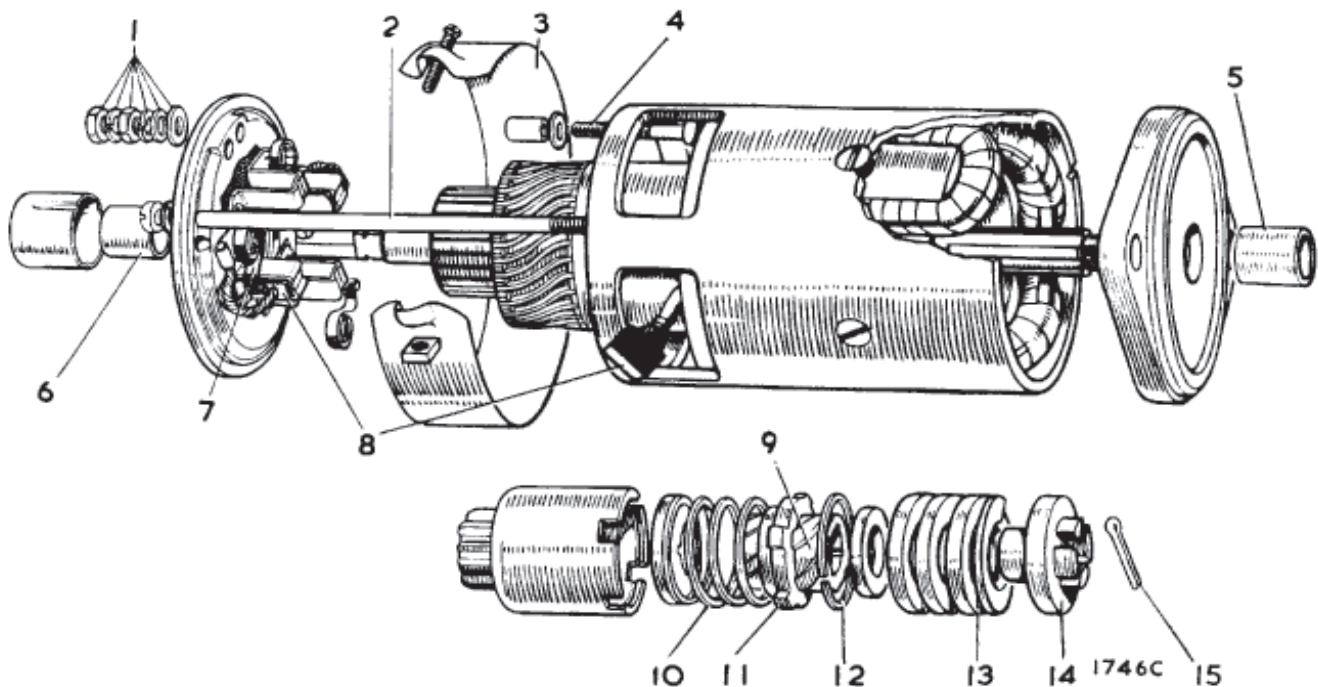

Fig. N.4
Remove the starter cover band (3) (Fig. N.4) and examine the brushes (8) (Fig. N.4) and the commutator. Hold back each of the brush springs (7) (Fig. N.4) and move the brush by pulling gently on its flexible connector. If the movement is sluggish remove the brush from its holder and ease the sides by lightly polishing with a smooth file. Always replace brushes in their original positions. If the brushes are worn so that they no longer bear on the commutator, or if the brush flexible lead has become exposed on the running face, they must be renewed.
Take off the cover band (3) (Fig. N.4) at the commutator end, hold back the brush springs (7) (Fig. N.4), and take out the brushes (8) (Fig. N.4) from their holders.
To dismantle the drive extract the split pin and remove the shaft nut (14) (Fig. N.4); withdraw the main spring and collar.